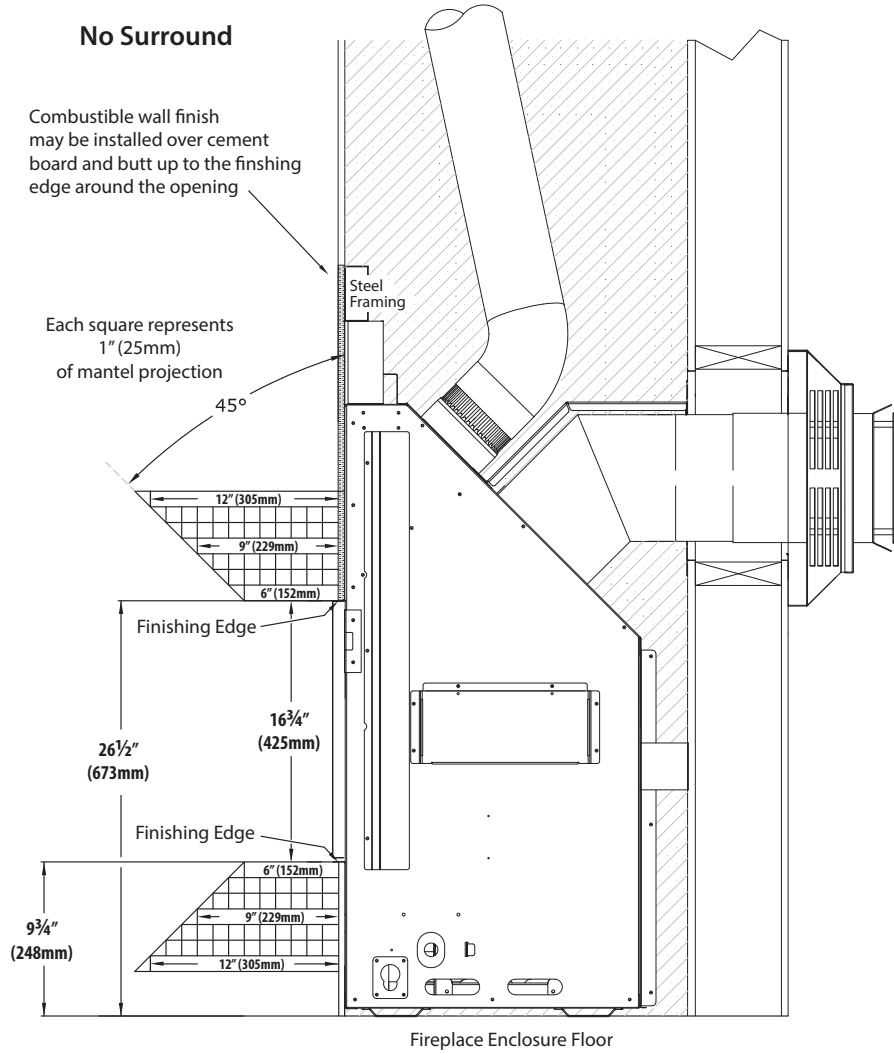

Figure 4.12, Hearth and Mantel Clearances for No Surround (shown with a KZK installed)
- Combustible Hearth and Mantel Projections - See 4.3 Masonry Finishing Guidelines for Optional Surrounds on page 32 if installing an optional surround. See Figure 4.12 on the following page if installing with no surround.